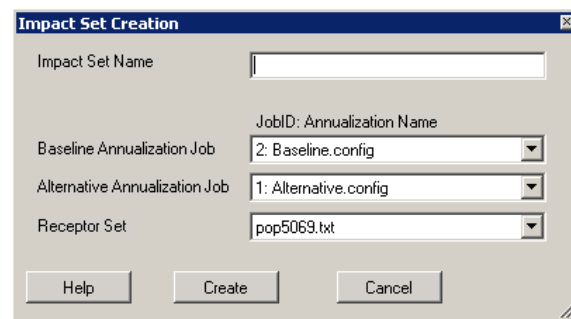

Figure 8-5 Impact Set Creation Dialog Box
2. Click the *Create New Impact Set* button. A new *Impact Set Creation* dialog box will open (Figure 8-5).